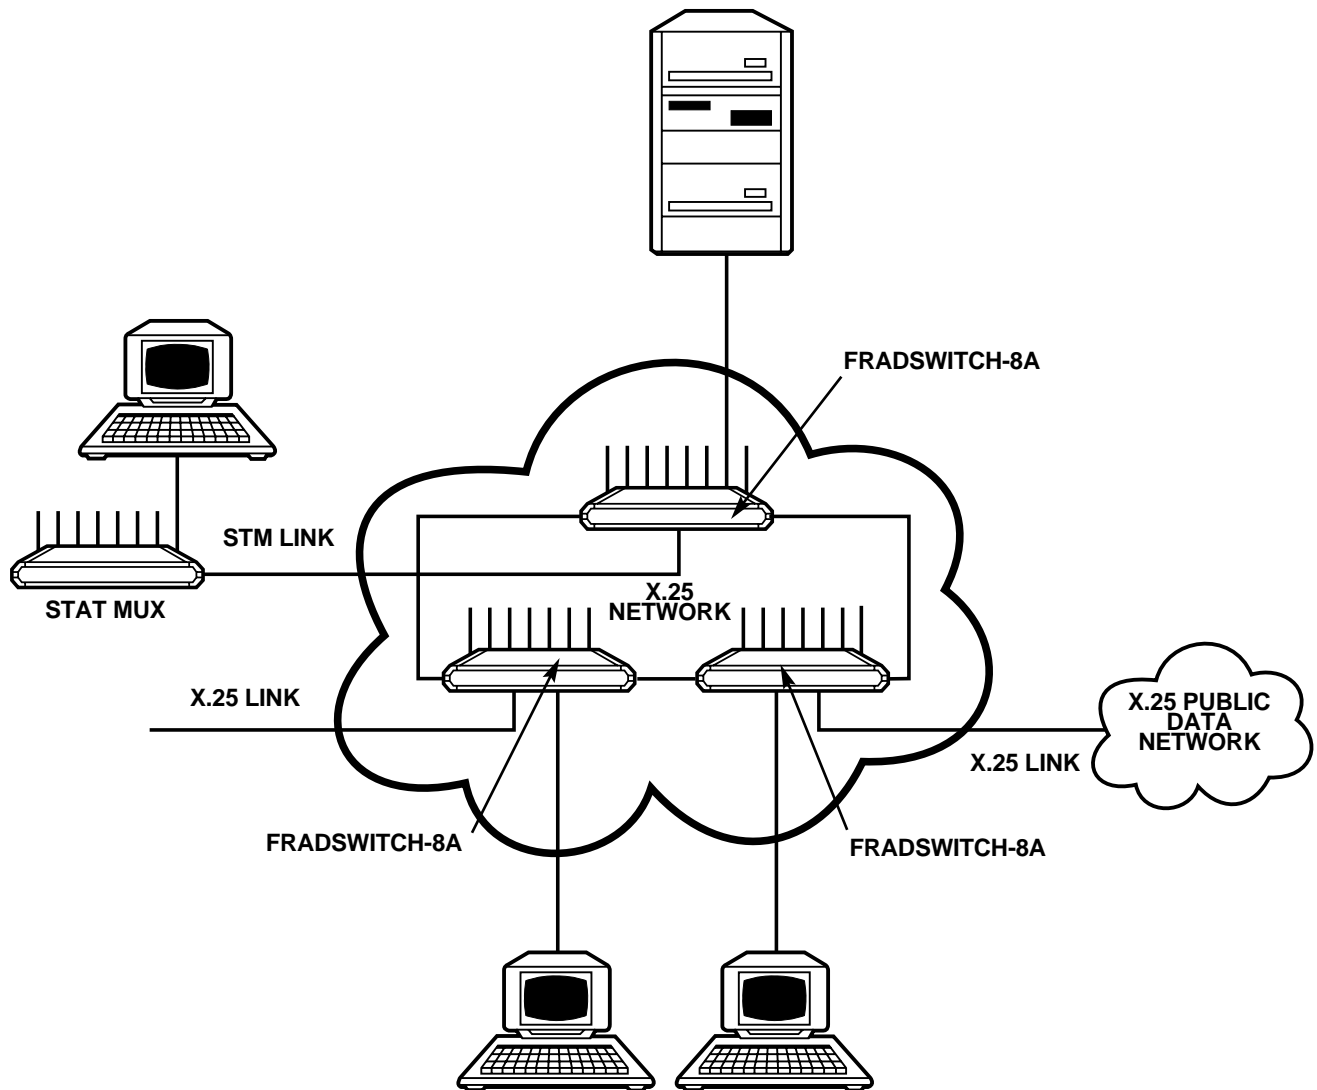

Figure 2-1. Fradswitch-8A serving as backbone for private X.25 data networks.
- Backbone for a low-cost private X.25 network with optional connection to the public network. (See **Figure 2-1**.)